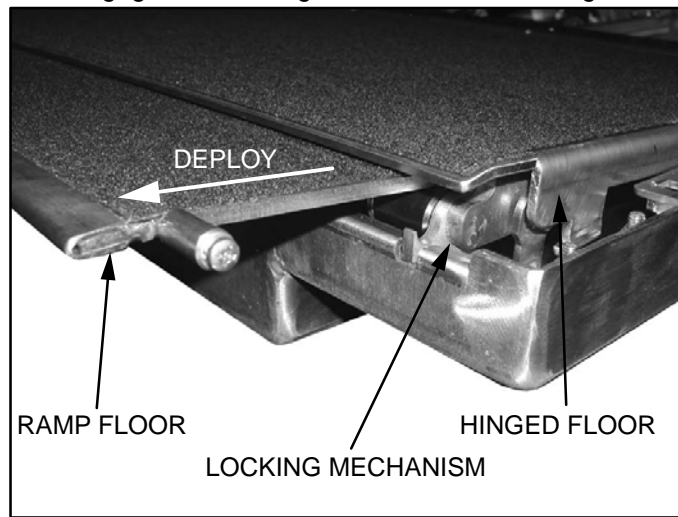

Figure 4-3: DISENGAGE RAMP FLOOR
- a. Refer to **Figure 4-3**. Deploy ramp about three inches in order to disengage ramp floor from the locking mechanism.
- a. Refer to **Figure 4-3**. Deploy ramp about three inches in order to disengage hinged floor from the locking mechanism.
- Refer to **Figure 4-3**. Deploy ramp about three inches in order to disengage hinged floor from the locking mechanism.